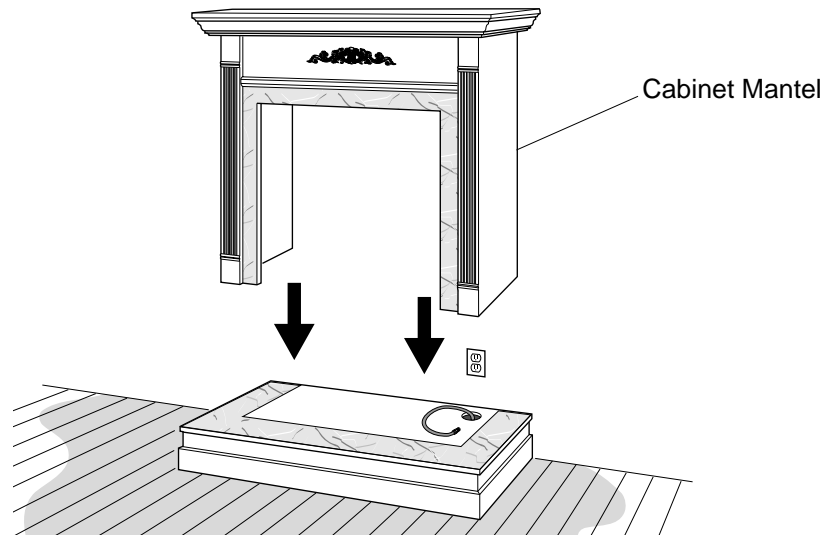

Figure 15 - Installing Cabinet Mantel
2. If using an optional GA3500A blower (FB32C model only), install a properly grounded, 120 volt three-prong electrical outlet at firebox location if an outlet is not there. If possible, locate outlet so cabinet mantel will cover it when installed (see Figure 15, page 16).
6. Center cabinet mantel on hearth base (see Figure 15). Make sure mantel is flush against wall.